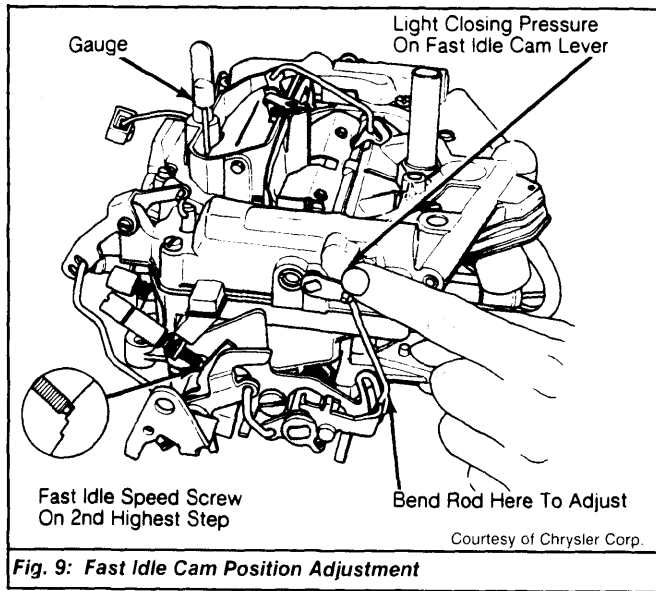

Fig. 9: Fast Idle Cam Position Adjustment
1) Position fast idle speed screw on second step of fast idle cam. Close choke valve by applying light closing pressure on fast idle lever. See Fig. 9.